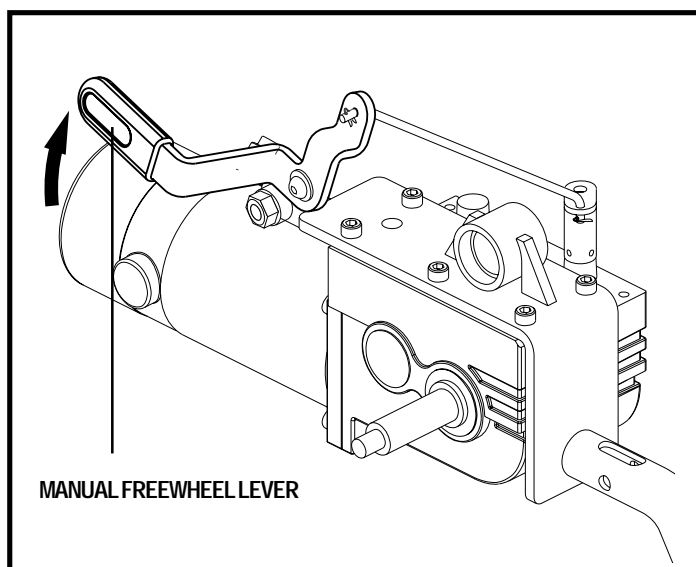

Figure 8. Drive Mode (Drive Engaged)
2. Pull the two levers upward to engage the drive motors. See figure 8.